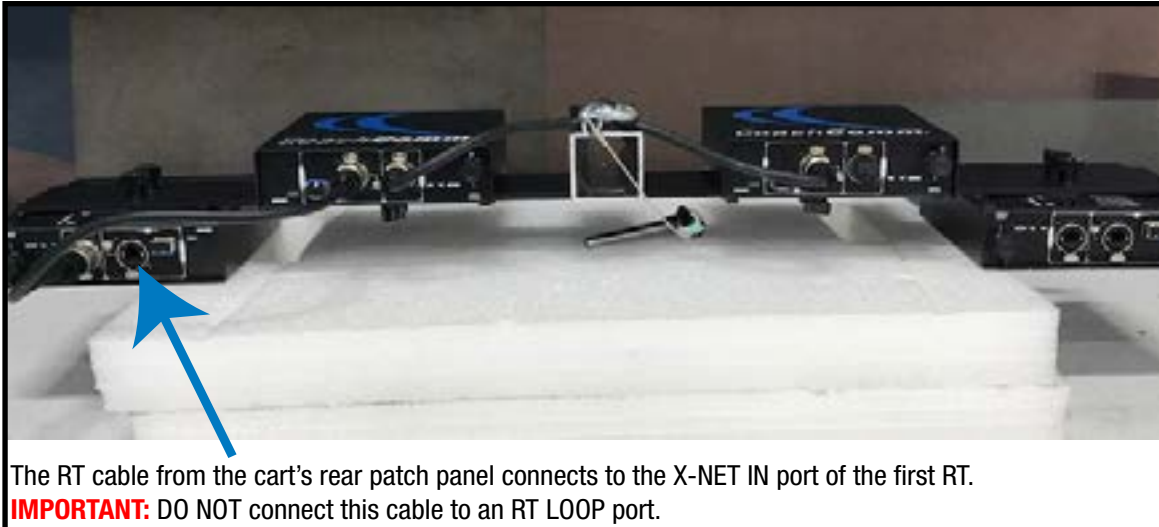

Figure 120: RT Cable Connection Location
6. Connect the RT cable to the first RT on the top bracket. (See Figure 120.)